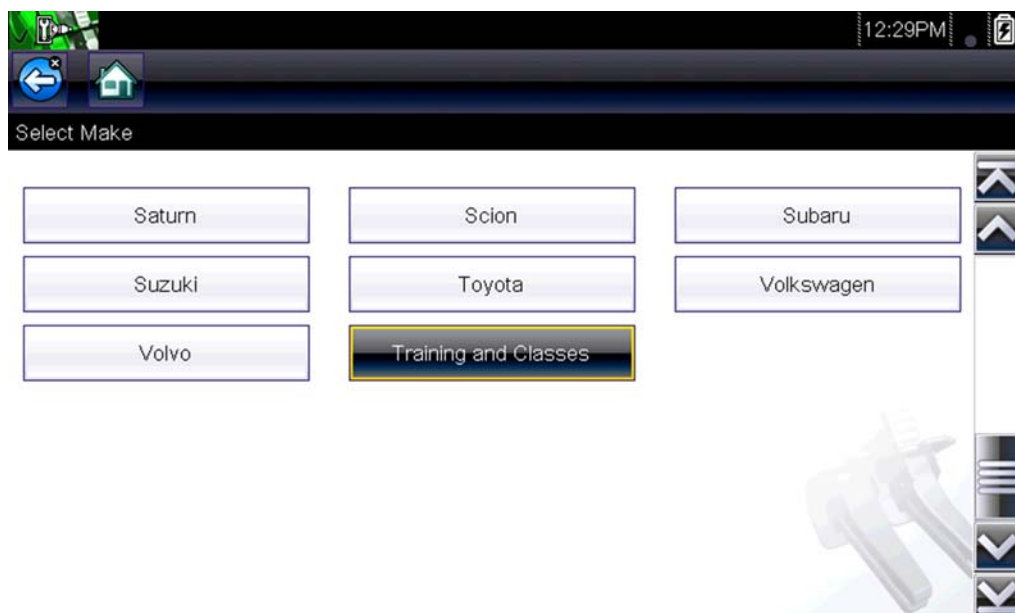

Figure 8-1
2. Select **Training and Classes** from the Vehicle Make menu (Figure 8-1) to access the menu options.